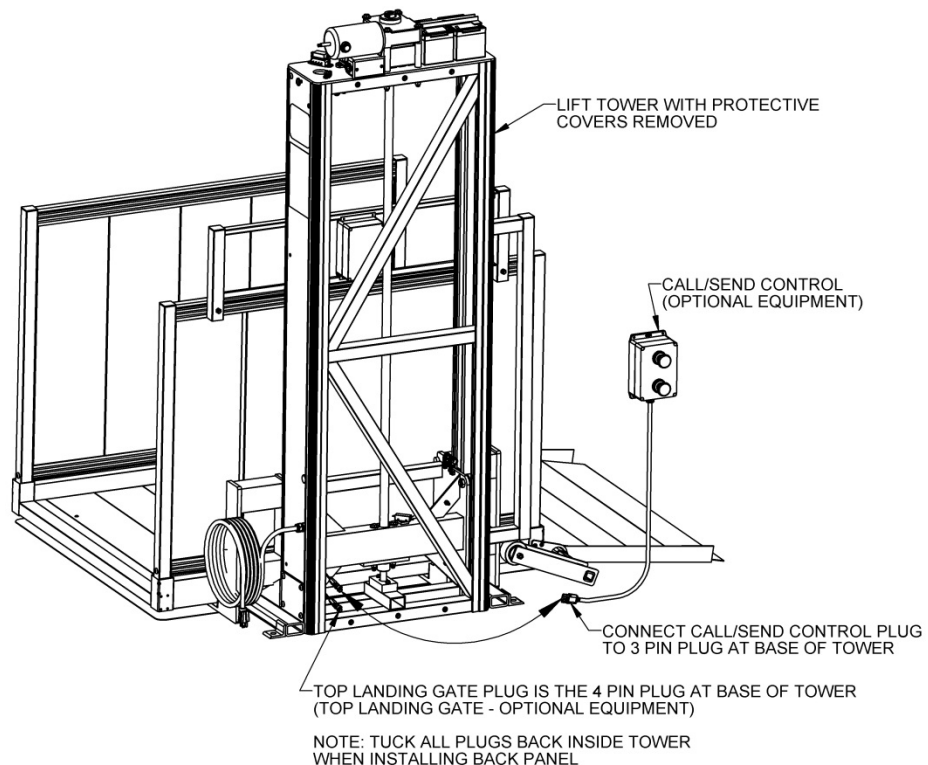

FIG. 12.2
1. Connect the Call/Send Control cord to VPL by first removing rear cover. There will be a cord with a 3-pin connector inside the tower located in the area where the power cord exits the tower. Bring this cord out of the tower, connect the Call/Send Control plug and tuck the connected plug back inside the tower (FIG. 12.2).